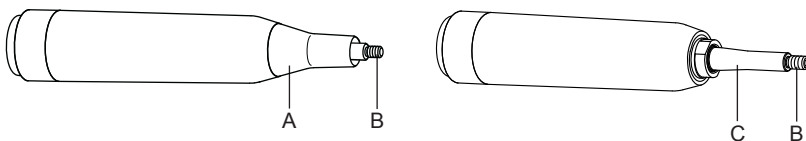

Fig. 7
Clean the handpiece carefully paying special attention to the threaded pin onto which the inserts are screwed (Fig.7 - Ref.B) and the adjacent ring-shaped cavity.
- 2 Unscrew the front metal cone (Fig.7 - Ref.A);
- Handpiece thread (Fig.7 - Ref.B);
- Titanium support (Fig.7 - Ref.C);
- Front cone (Fig.7 - Ref.A) in its external and internal parts.
- 6 Dry and reassemble the front cone on the handpiece (Fig.7 - Ref.A);